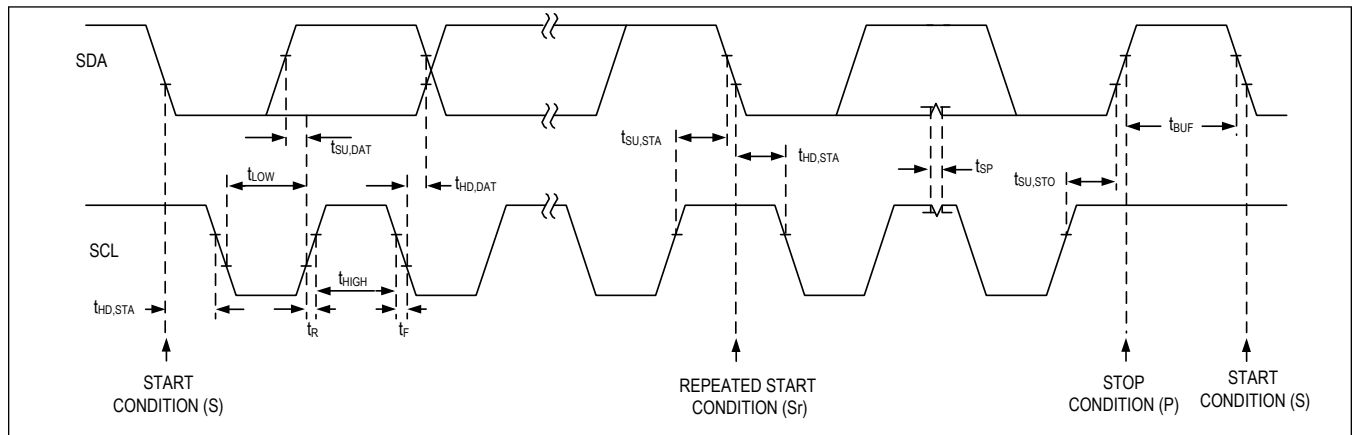

Figure 5. I²C Serial-Interface Timing Diagram
The bus remains active if a Repeated START condition is generated instead of a STOP condition; this is often used in combined-format read operations. See Figure 5 for examples that show the generation and proper use of START (S), STOP (P), and Repeated START (Sr) conditions.
A command byte follows the slave address. A command byte is typically followed by one or two data bytes unless it is the last byte in the transmission, as would be the case for readback operations (see Figure 5). If data bytes follow the command byte, the command byte indicates the address of the register that should receive the data bytes that follow. The data bytes are stored in a temporary register and then transferred to the appropriate register during the ACK periods between bytes.